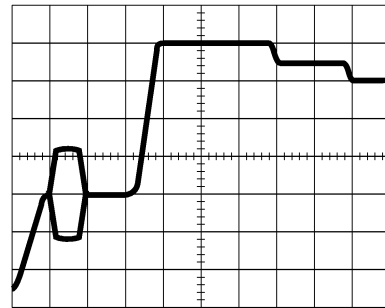

figure 4
► Select DELAY Mode. The burst goes to the beginning of the screen (Figure 4).